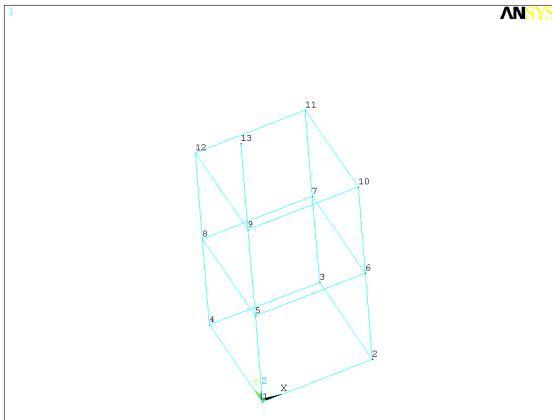

Figure 4.3
4. Now create vertical elements between vertically adjoining nodes, as shown in Figure 4.3.